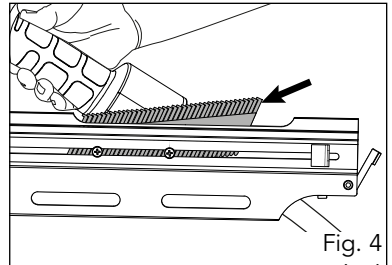

Fig. 4
2. Feed the strip of fasteners into the magazine (5) from the top, be sure the fasteners are pointing downwards and at an forward angle as you do so (fig. 4).